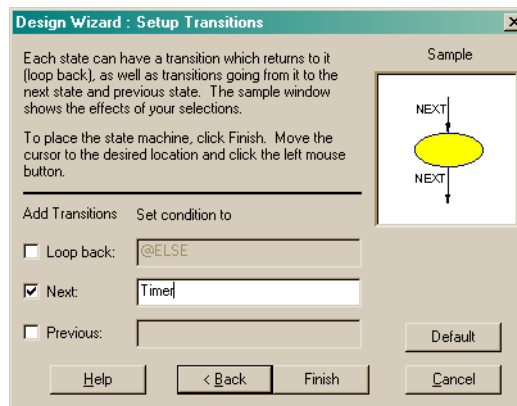

Figure 4-19: Setup Transitions Window
- Next, you will see the **Setup Transitions** dialog box. Type "TIMER" in the Next field (shown in Figure 4-19).